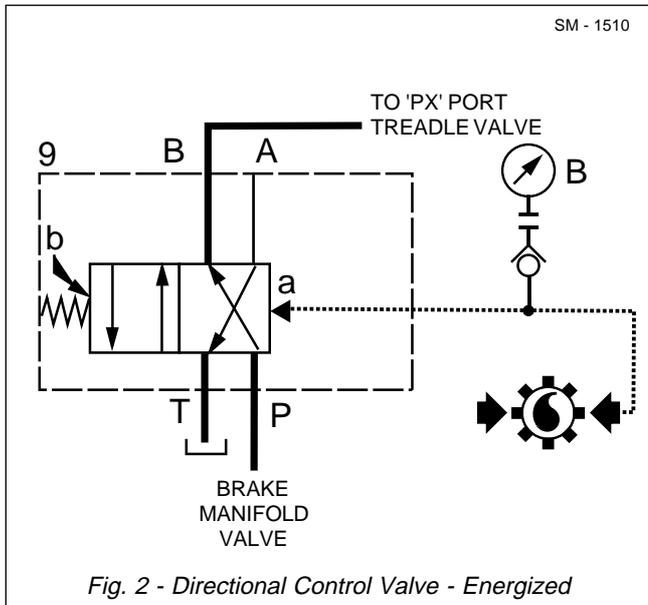

Fig. 2 - Directional Control Valve - Energized
**Note:** Transmission control pressure is taken from a tee in the transmission control pressure line and can be recorded at a remote diagnostic point on the rear left hand cab support. Refer to Figs. 2 and 3.
Refer to Fig. 2. When the engine is running, transmission control pressure enters the directional control valve at port 'a'. Oil pressure forces spool (3) against spring (7) pressure, at port 'b' side of valve body (1), internally linking port 'P' to port 'B' in sub plate (13). This results in an open circuit between the brake manifold valve and port 'Px' in the treadle valve.
Refer to Fig. 2. With the engine running and the brake manifold valve energized, (park/emergency brake switch deactivated - pulled out) hydraulic oil from the rear brake accumulator flows through the brake manifold valve and enters valve body (1) at port 'P'. Oil flows through pressure reducing valve (9) and exits valve body (1) at port 'RB2' to release the parking brake. Oil pressure is reduced to 83 bar (1 200 lbf/in2) before leaving valve body (1) at port 'RB2'. Excess oil at pressure reducing valve (9) is diverted back to tank through port 'T' in valve body (1).
Refer to Fig. 2. When the treadle valve is released and the pressure in the rear brakes fall below  $3.1 \pm 0.35$  bar ( $45 \pm 5$  lbf/in2), residual pressure pushes shuttle valve (10) spool back across to close off port 'FB' to the rear brake lines. Residual pressure is present in the rear brake lines.
Refer to Fig. 2. In either condition (treadle/retarder valve application), when the pressure in the rear brakes fall below  $3.1 \pm 0.35$  bar ( $45 \pm 5$  lbf/in2), residual pressure pushes shuttle valve (10) spool back across to close off port 'FB' to the rear brake lines. Residual pressure is present in the rear brake lines.